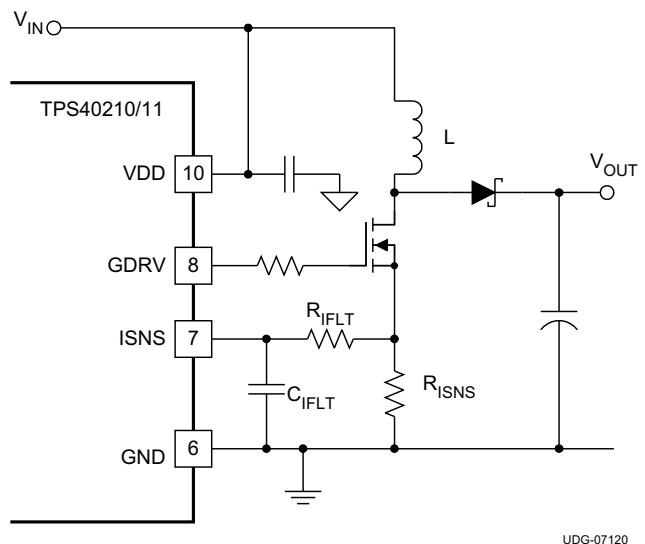

Figure 23. Current Sense Components
- $V_D$  is the drop across the diode in Figure 23
- $V_{\text{D}}$  is the drop across the diode in Figure 23
It is possible to increase the voltage compensation ramp slope by connecting the VDD pin to the output voltage of the converter instead of the input voltage as shown in Figure 23. This can help in situations where the converter design calls for a large ripple current value in relation to the desired output current limit setting.
In most cases, a small filter placed on the ISNS pin improves performance of the converter. These are the components  $R_{\text{IFLT}}$  and  $C_{\text{IFLT}}$  in Figure 23. The time constant of this filter should be approximately 10% of the nominal pulse width of the converter. The pulse width can be found using Equation 11.